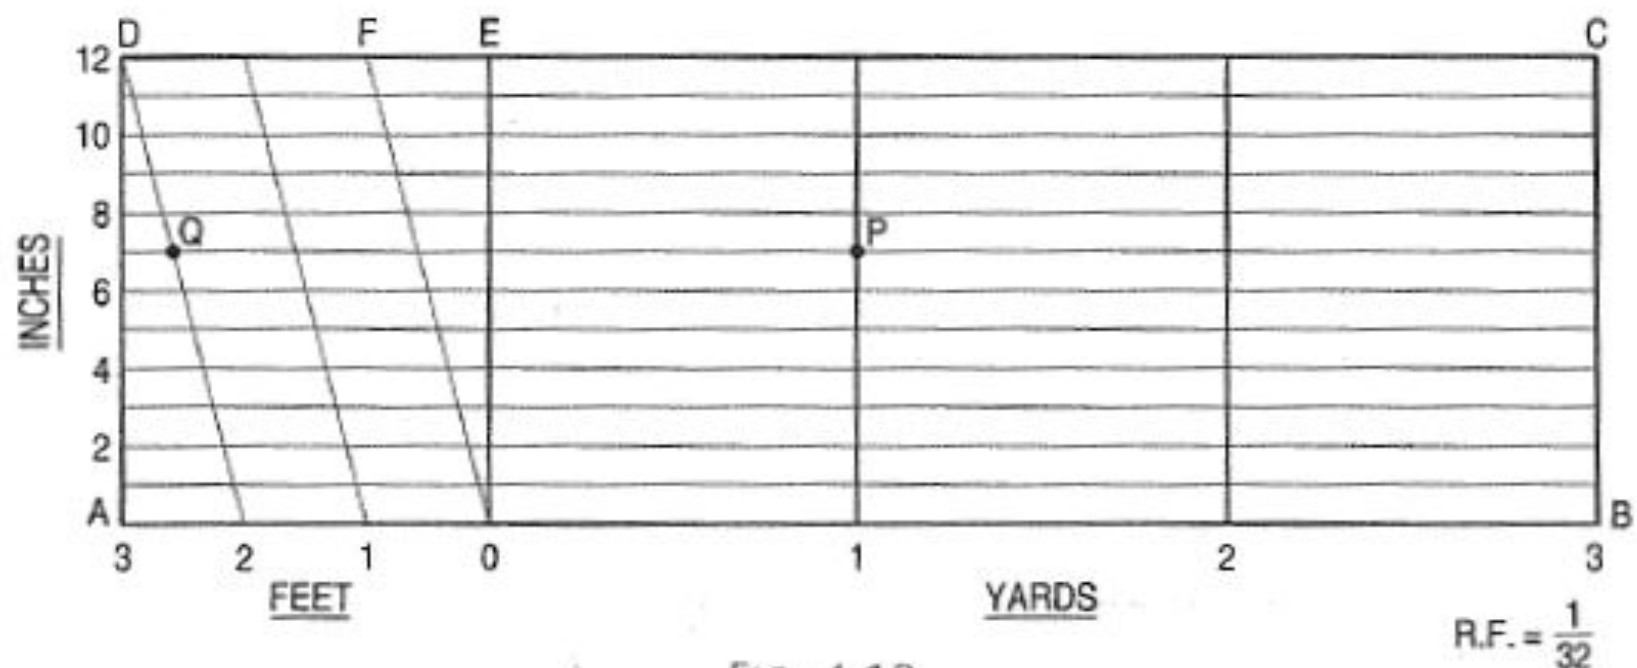

FIG. 4-10
**Problem 4-9.** (fig. 4-10): Construct a diagonal scale of R.F. =  $\frac{1}{32}$  showing yards, feet and inches and to measure upto 4 yards.